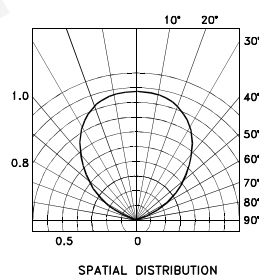

Fig.2 Collector Current Vs. Forward Current
- The condition and arrangement of the reflective object are shown below. Fig.1, Fig.2, Fig.3, Fig.4, Fig.5 and Fig.9 in the same condition.